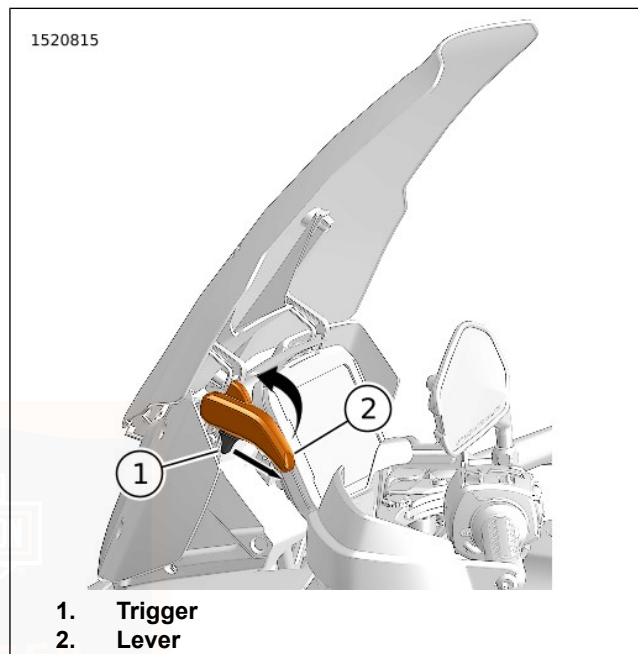

Figure 50. Windshield Height Adjust
- See Figure 50. While holding lever (2) pull trigger (1) until lever can be moved down.
1. See Figure 50. While holding lever (2) pull trigger (1) until lever can be moved up.